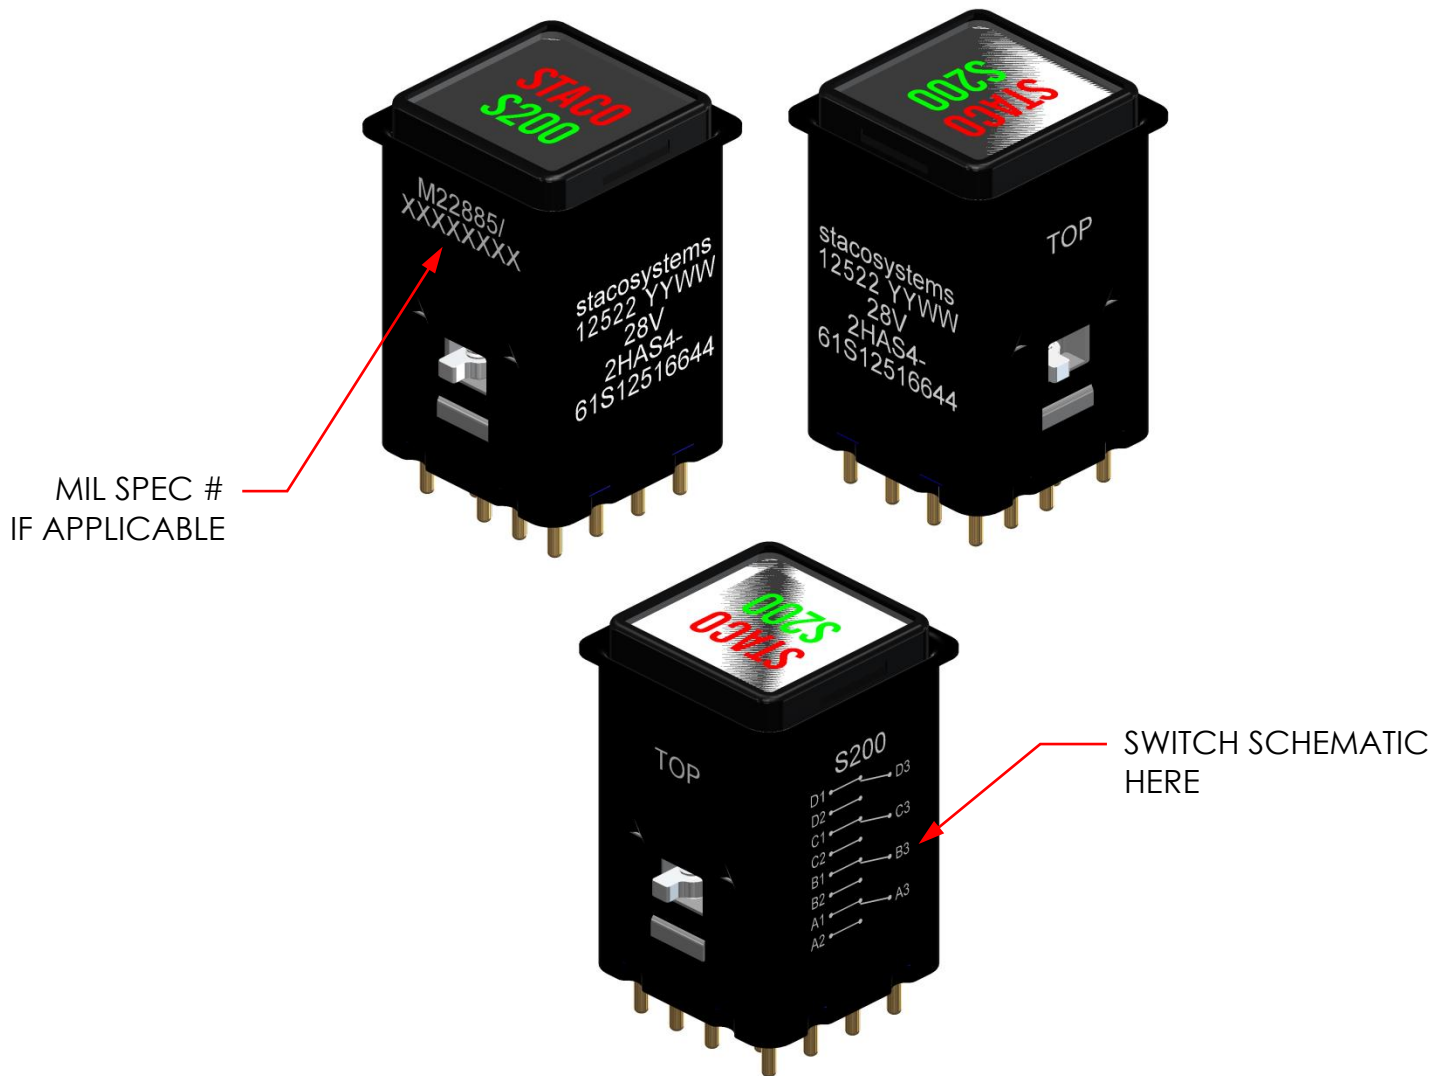

Figure 49: Non-MIL Spec Marking (4 pole & PC Extended Version Shown)
4.8.1.3. For custom part number markings, notes a thru f apply as a minimum unless otherwise specified. See Figure 49: Non-MIL Spec Marking \(4 pole & PC Extended Version Shown\).